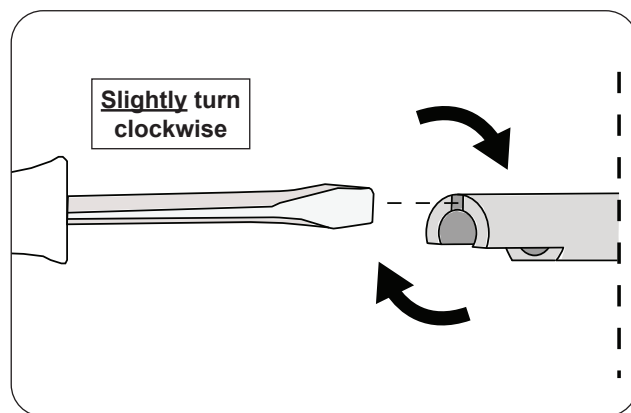

Fig. 47-2 Stem adjustment
2. Insert a flathead screwdriver into the split portion of the stem and **GENTLY** turn the screwdriver clockwise. Be cautious! Only a slight turn is needed as the stem is flexible. See Fig. 47-2.